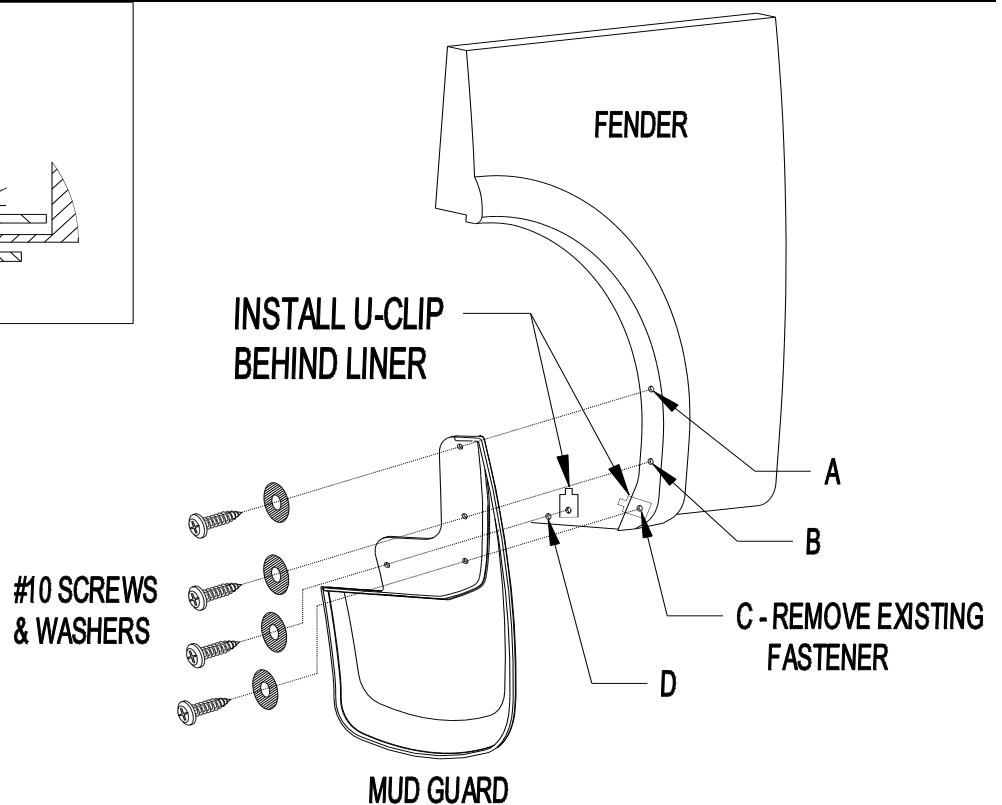

Figure 1
2. Remove existing fastener from location C (Figure 1).
3. Attach mud guard to rear fender with a #10 screw and washer, thru mud guard, fender, fender liner and into a U-clip on the backside of the fender liner (Figures 1 & 2). Check fit and level before tightening.
5. Install #10 screws and washers at locations A and B (Figure 1).